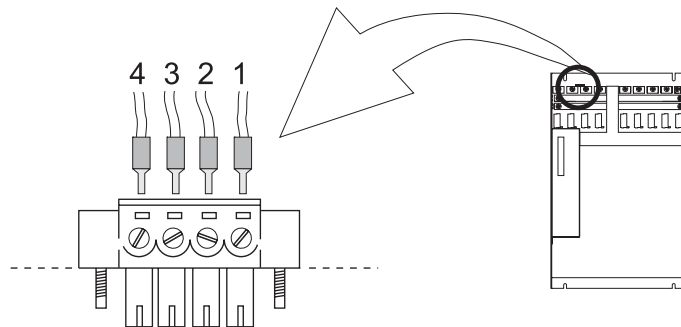

Figure 21: : Safety relay X68
1) Position see ►Figure 21◀ on page 55